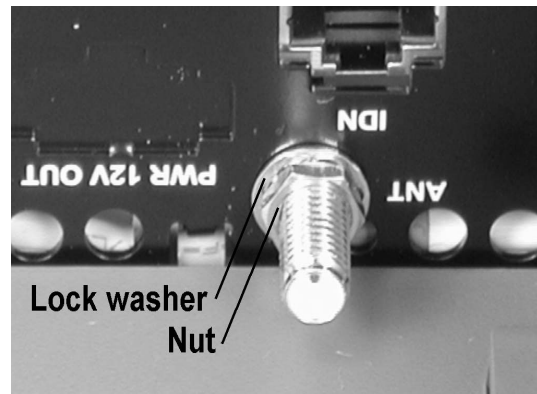

Figure 5: Using the SMA Panel Mount
13. Insert the SMA connector into the 'ANT' cut-out in the IO Panel. The cut-out is in the same location on the Workstation 5 and 5A. Refer to Figure 5, below and install the lock washer and nut, then fasten securely.